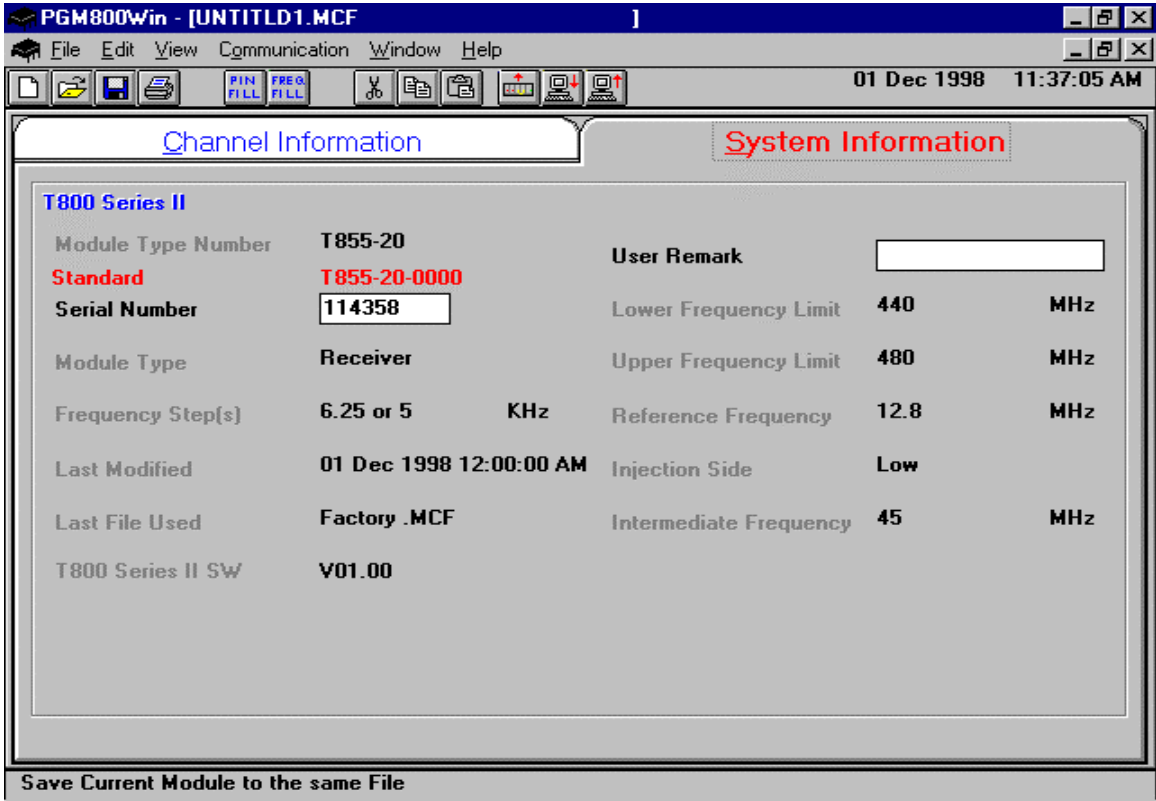
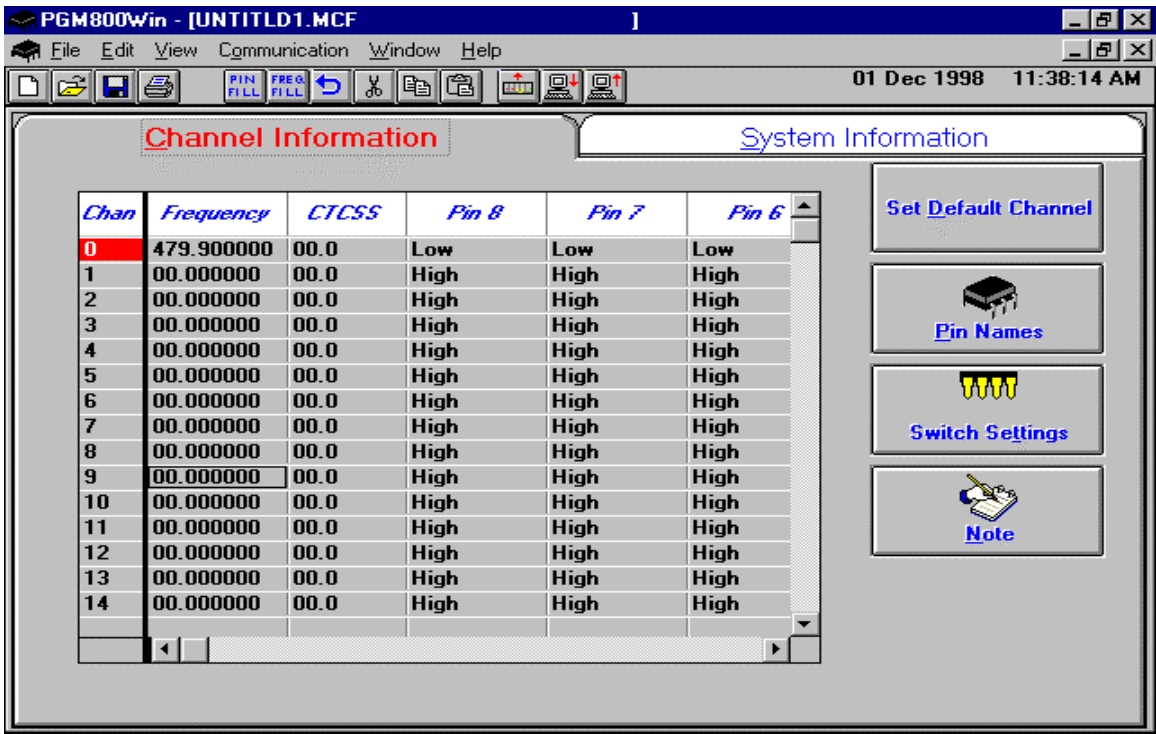
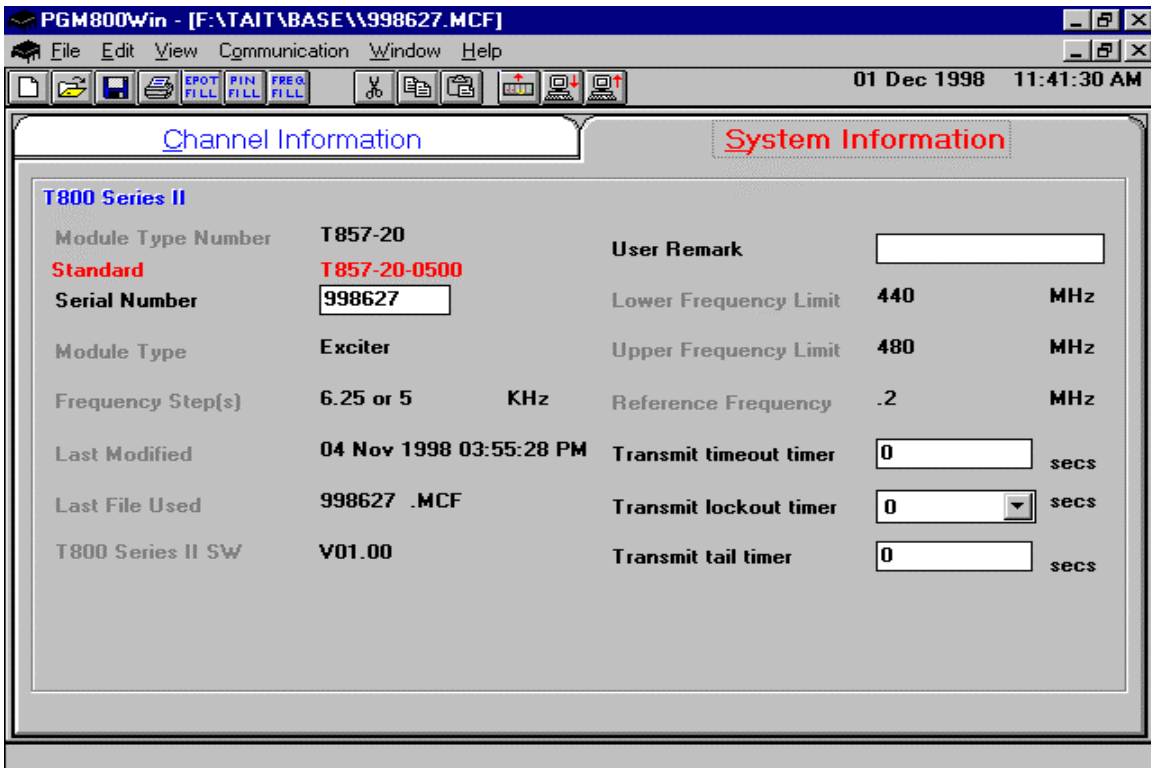
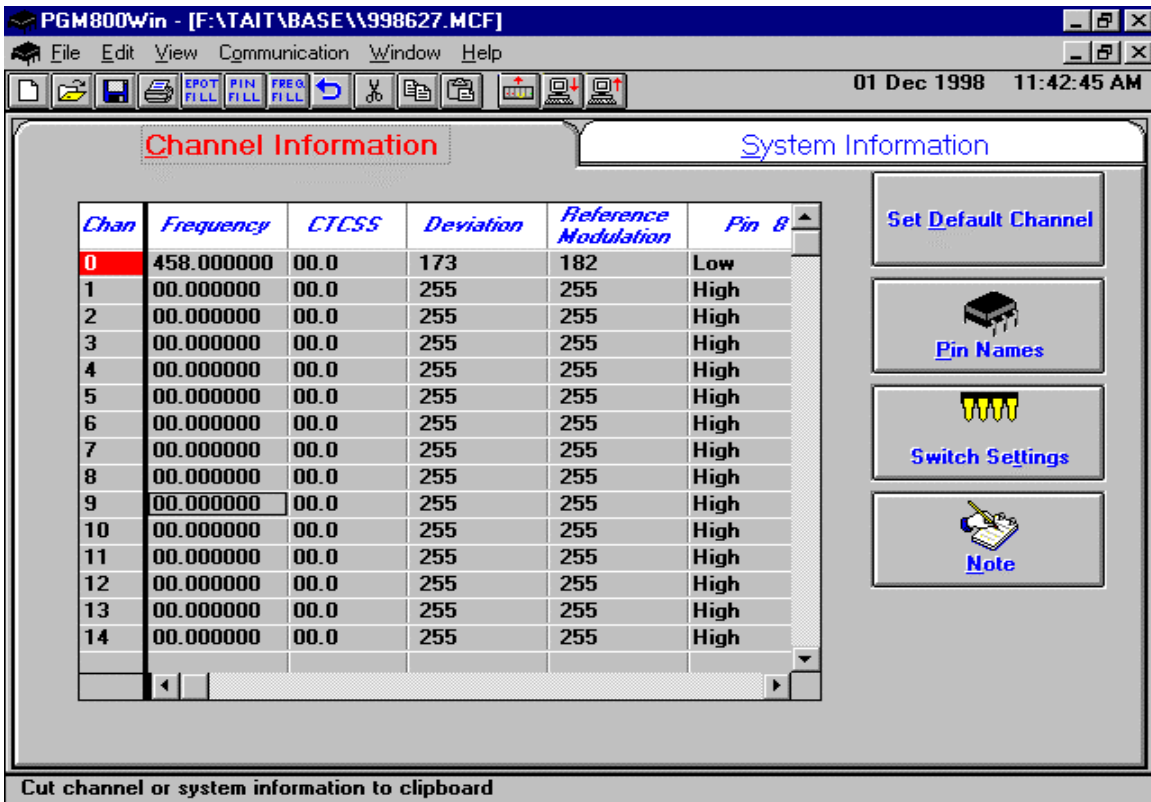

Figure 11 - Receiver System Information Sample
Figure 12 - Receiver Channel Information Sample
Figure 13 - Exciter System Information Sample
Figure 14 - Exciter Channel Information Sample
- Refer to Figure 11, Figure 12, Figure 13 and Figure 14 for screen program examples.